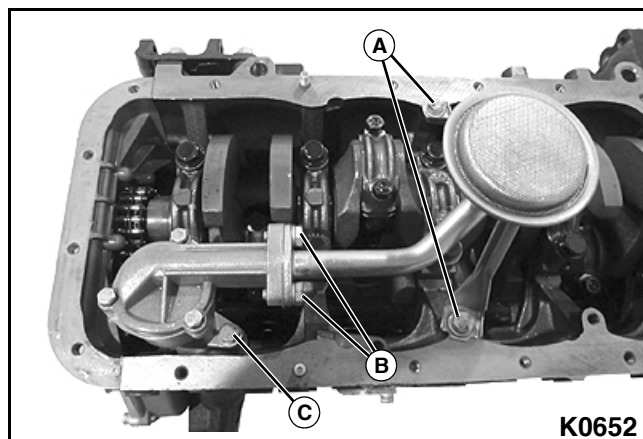

Figure 3-189
1. Remove two bolts, lock washers, and flat washers securing the oil pump pick-up tube to the cylinder block (A). **See Figure 3-189.**
2. Remove two bolts and lock washers securing the oil pump pick-up tube at the suction side of the oil pump housing (B).
4. Remove one bolt and flat washer securing the oil pump to the cylinder block (C).